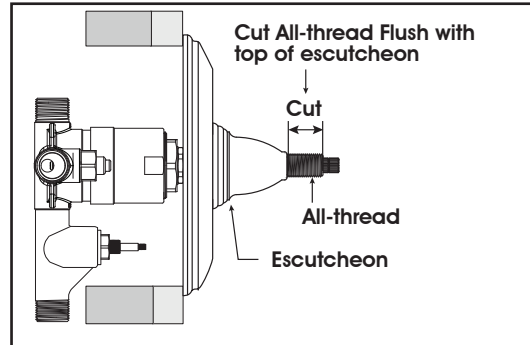

**FIG. 3**
4. Remove the temperature ring by placing the blade of a knife into the groove and prying it off. FIG. 3. It is not necessary to remove the inner hex nut.